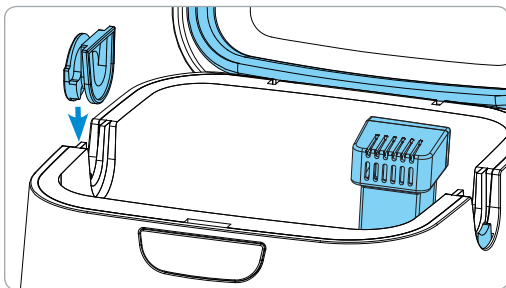

Figure 6. Install Removable hose slot plug
2. Install the Removable hose slot plug into one open slot (Figure 6).
- Orientate the Removable hose slot plug as shown in Figure 6. The round face of the Removable hose slot plug is on the outside of the SoClean 2.